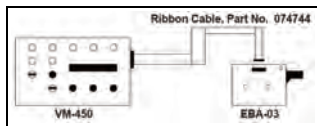

Figure A-2 Connecting the Ribbon Cable
1. Connect the EBA-03 to the VM-450 with short ribbon cable Part No. 074744 (See Figure A-2).